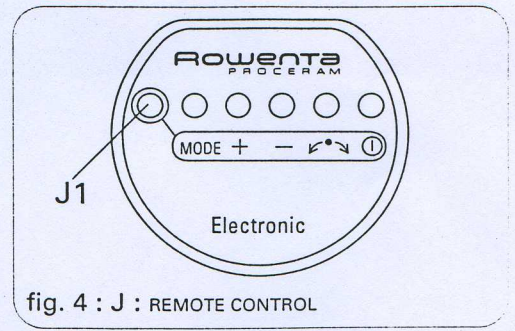

fig. 4 : J : REMOTE CONTROL
- J. Fernbedienung (Abb. 4)
- J. Remote control (Fig. 4)
- J. Télécommande (Fig.4)
- J. Telecomando (Fig. 4)
- J. Mando a distancia (Fig.4)
- J. Telecomando (Fig.4)